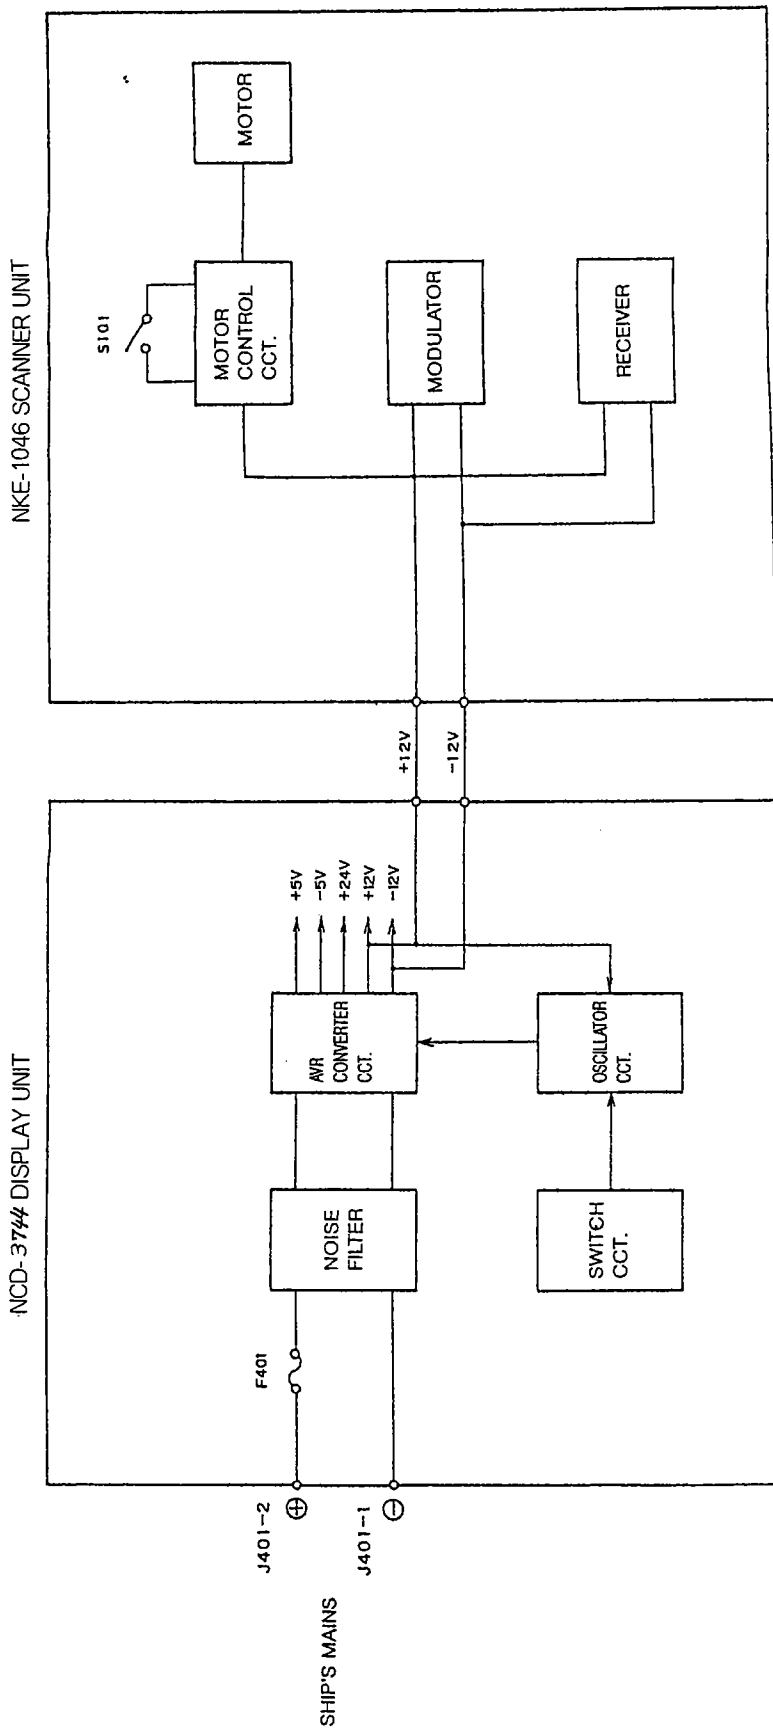

Fig. 105 POWER SUPPLY DIAGRAM OF RADAR 3000
- Fig. 105 POWER SUPPLY DIAGRAM OF RADAR 3000